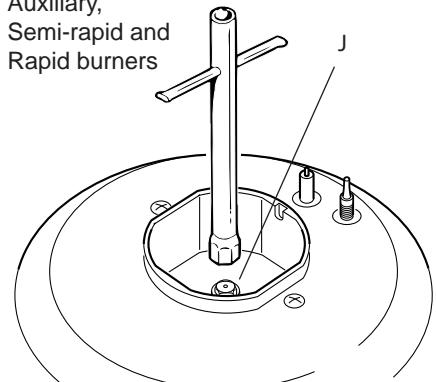

Fig. 9.10
- Using a wrench, substitute the nozzle injectors "J" (figs. 9.10, 9.11) with those most suitable for the kind of gas for which it is to be used.